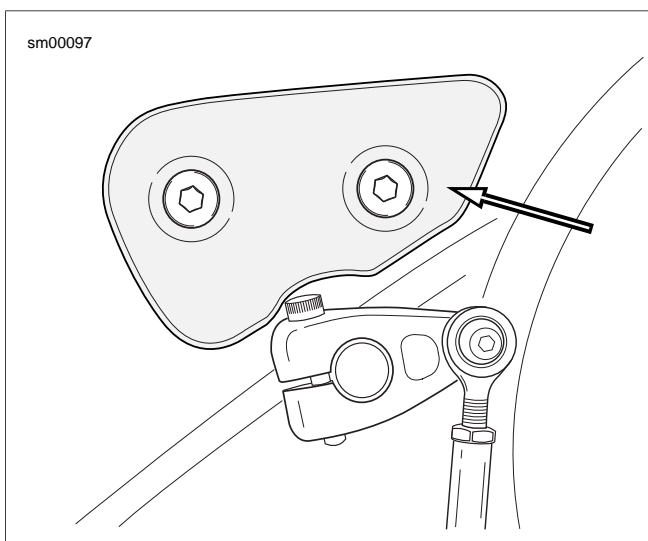

Figure 1-31. Primary Chain Inspection Cover
See Figure 1-31. Measure primary chain tension through the inspection cover opening. Adjust primary chains not meeting vertical free play specifications.
1. See Figure 1-31. Remove two fasteners with captive washers and primary chain inspection cover with gasket from primary cover.
4. See Figure 1-31. Install primary chain inspection cover and **new** gasket to primary cover using two fasteners with captive washers. Tighten fasteners to 84-108 **in-lbs** (10-12 Nm).